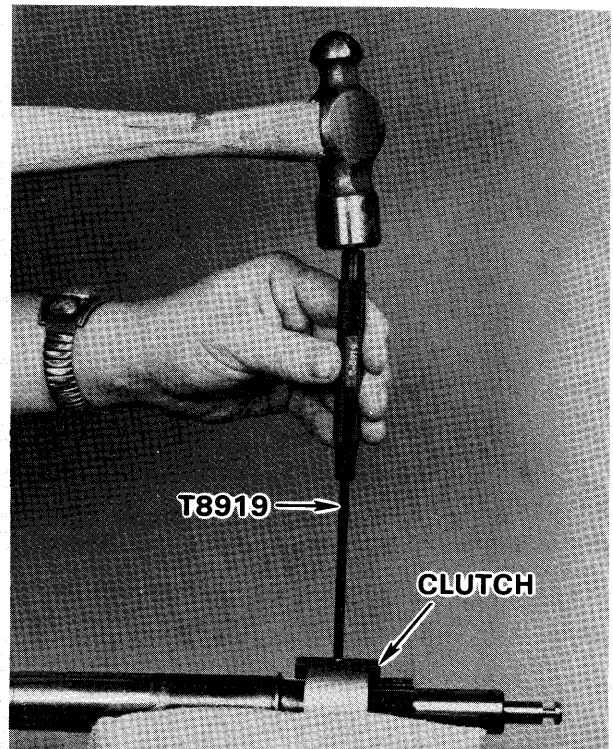

Figure 18—Removing Clutch
- F. Remove yoke from end of shift pin, drive out spring pin securing clutch to shift pin and remove clutch and shift pin from prop shaft. See figure 18.